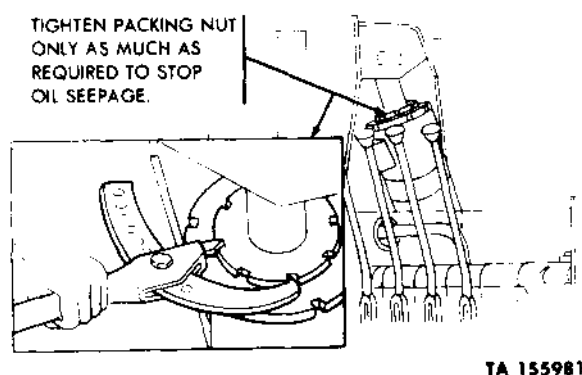

Figure 2-251. Hydraulic cylinder packing adjustment.
*a. General.* The two boom elevating cylinders and the boom crowd cylinder have an adjustable packing gland nut (fig. 2-251) to correct oil leakage at the packing around the piston rod. Adjustment is the same for all three cylinders.
(1) Using a spanner wrench (6, fig. 2-4) as shown in figure 2-251, tighten the packing nut only as much as required to stop oil seepage. When the adjustment has been used up, a new packing must be installed.